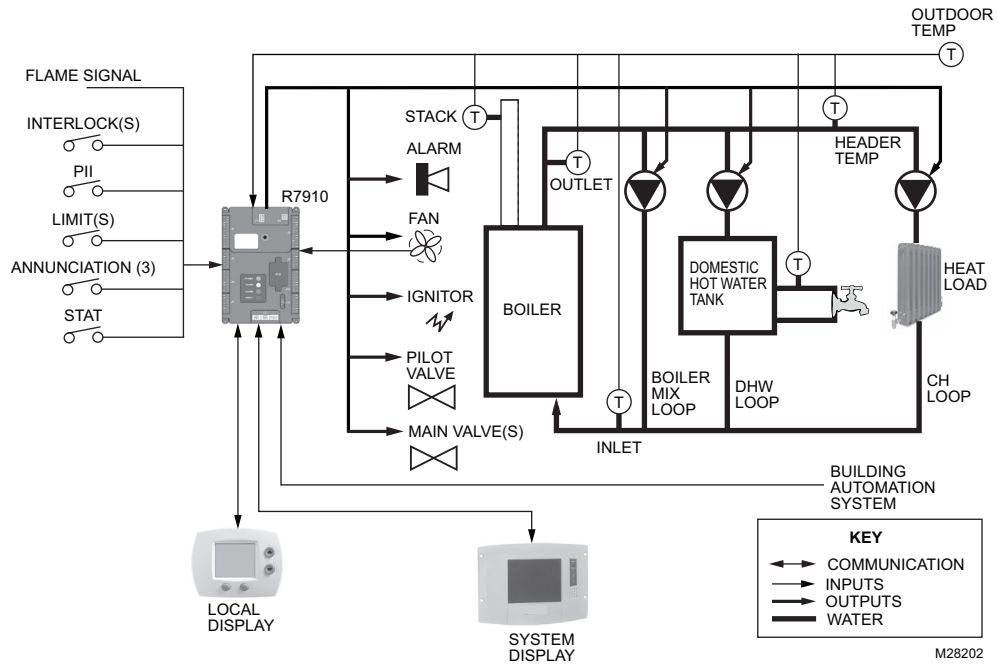

Fig. 2. General hydronic boiler schematic.
Fig. 2 shows two loops of heat control: Central Heating (CH), and an optional second loop for Domestic Hot Water (DHW) can be configured on each R7910B. The DHW loop transfers